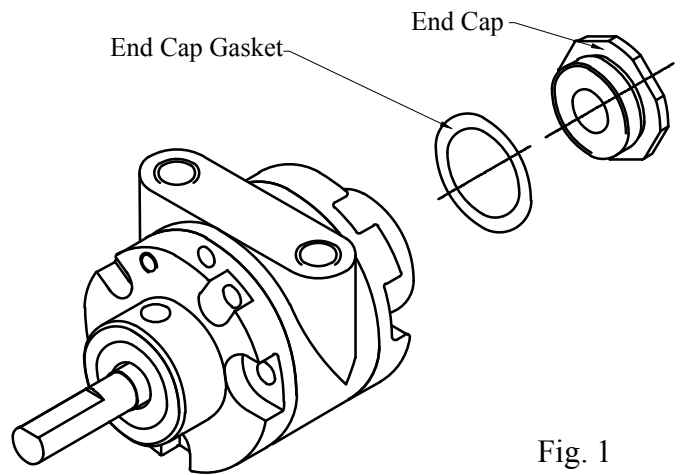

Fig. 1
2. Use the proper sized wrench to carefully remove the end cap from the motor with approximately 25 ft-lb torque. Then remove the end cap gasket. Refer to fig. 1.